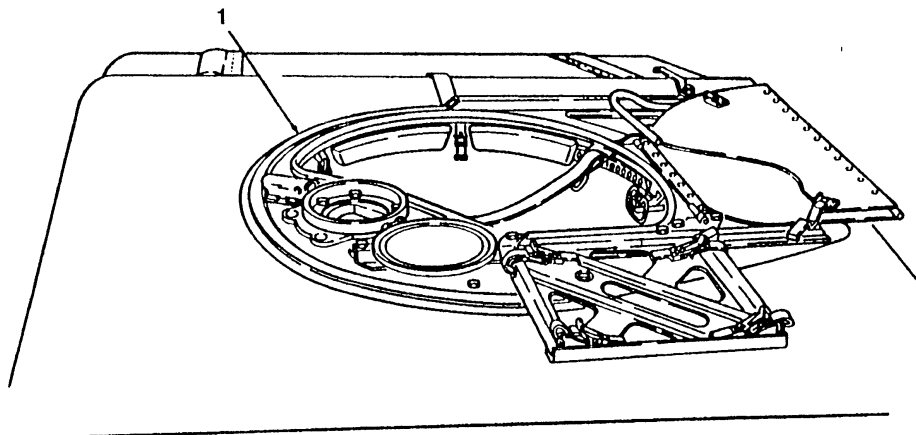

FIGURE 3-25
1. Inspect, tighten, or replace any loose, missing, or damaged parts on the weapon station turret (1) area as shown in TM9-2320-280-20. (see figure 3-25)